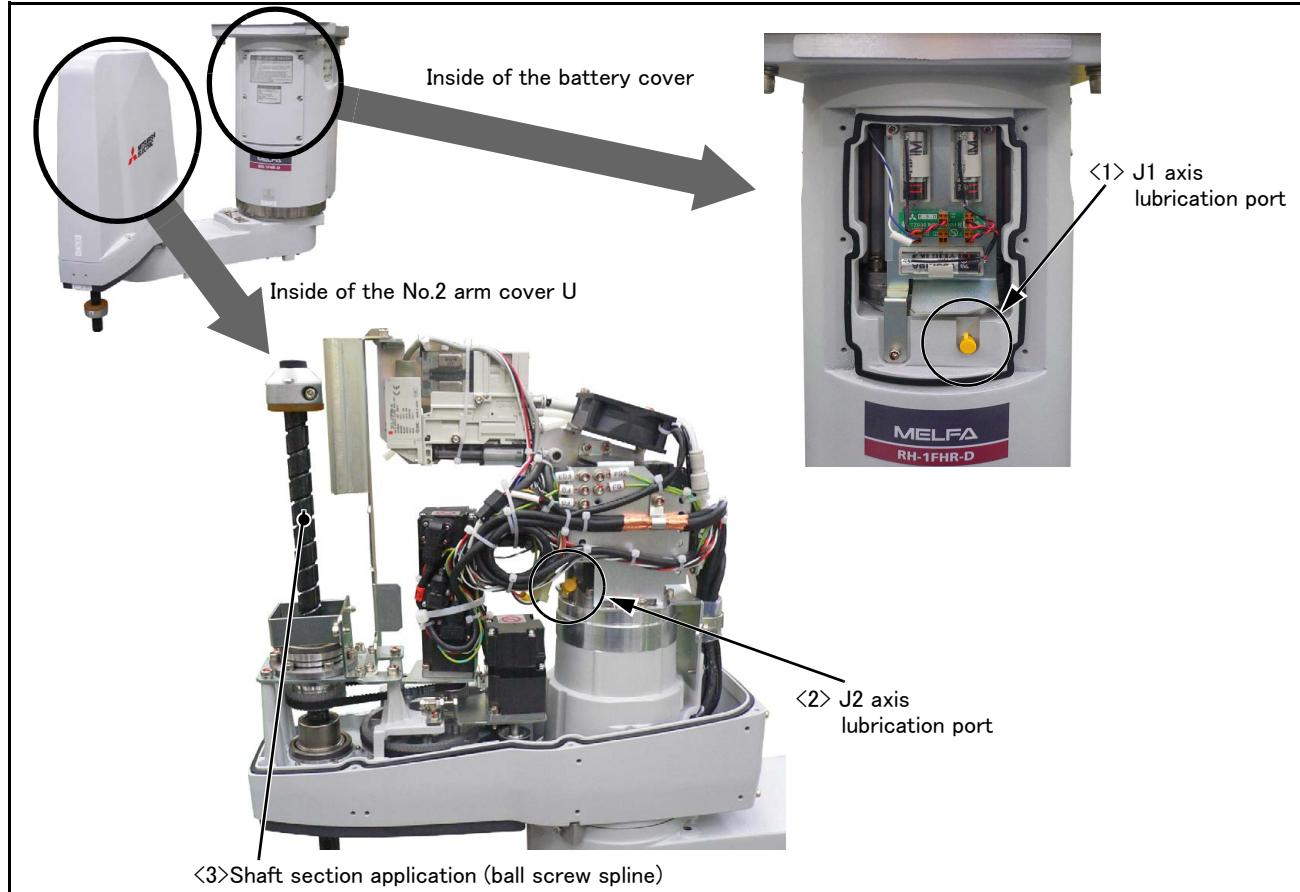

Fig.5-14 : Lubrication positions
The grease nipple position is shown in Fig. 5-14. The lubrication specifications for each place are shown in Table 5-4. Refer to the Page 70, "5.3.2 Installing/removing the cover" for the method of removing and installing the cover.
- The numbers in the Table 5-4 correspond to the supply positions in Fig. 5-14.
(2) Lubrication method to the J1, J2 axis